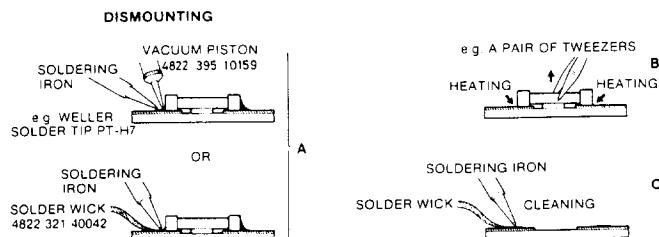

Fig. 3
- Heat the solder (for 2-3 seconds) at each terminal of the chip. Small components can, by means of litz wire and a limited horizontal force, be removed with the soldering iron. They can also be removed with a solder sucker (see Fig. 3) or